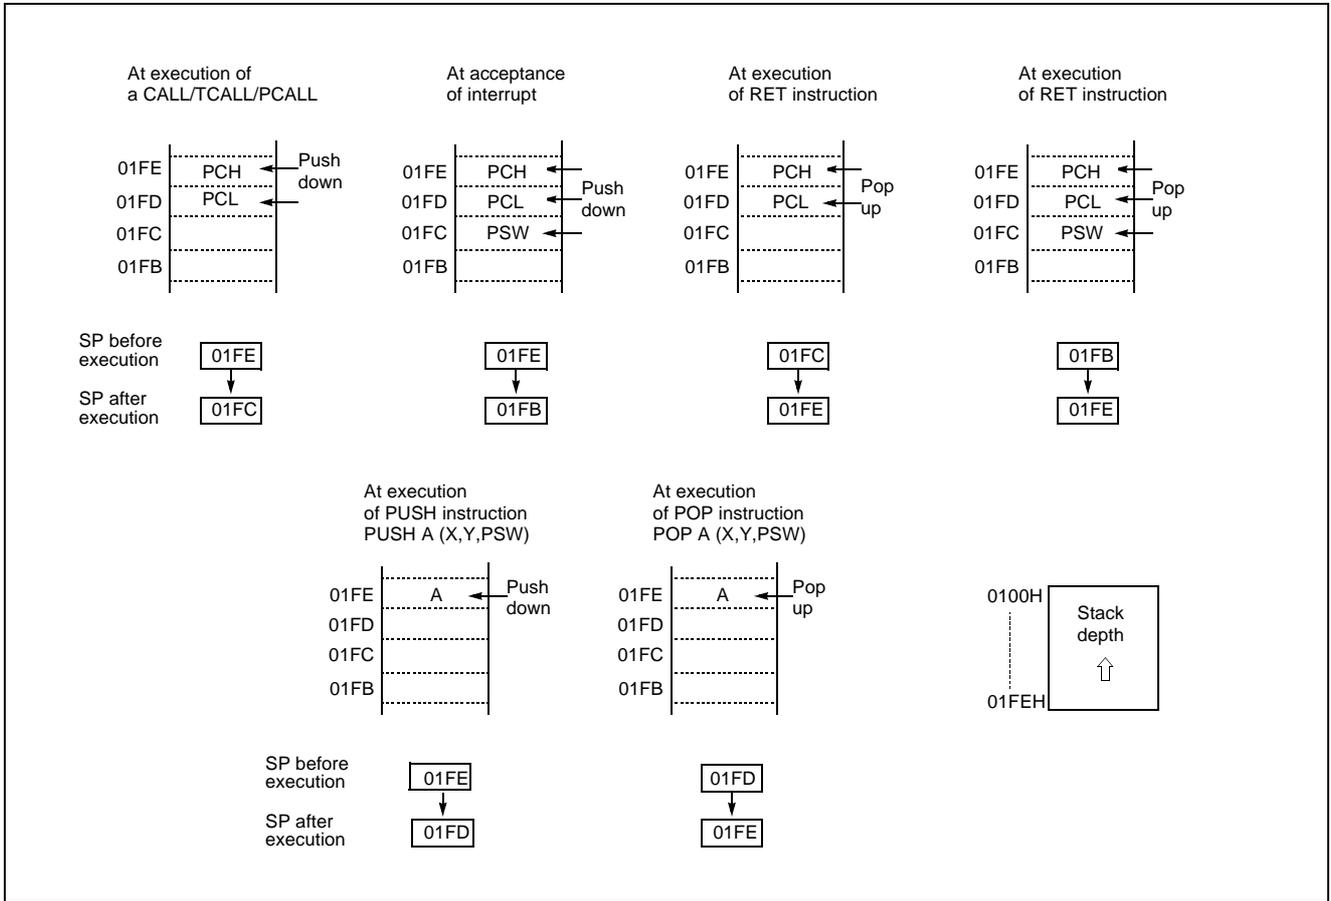

Figure 8-4 Stack Operation
The save/restore locations in the stack are determined by the stack pointed (SP). The SP is automatically decreased after the saving, and increased before the restoring. This means the value of the SP indicates the stack location number for the next save. Refer to Figure 8-4 on page 17.